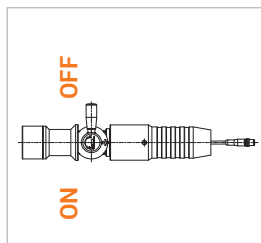

Figure 5
- ▶ Remove the fueling nozzle from the dispenser. The actuation lever (Pos. 3) must be in the OFF position (*Figure 5*).